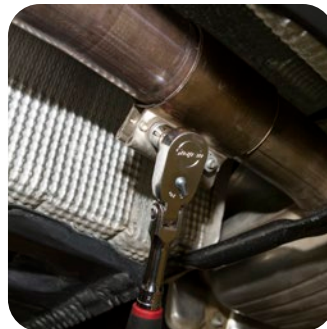

FIG. 21
- 21** Remove the two (2) 13mm nuts from the middle exhaust sleeve clamp and slide it out of the way. (See Fig. 21)